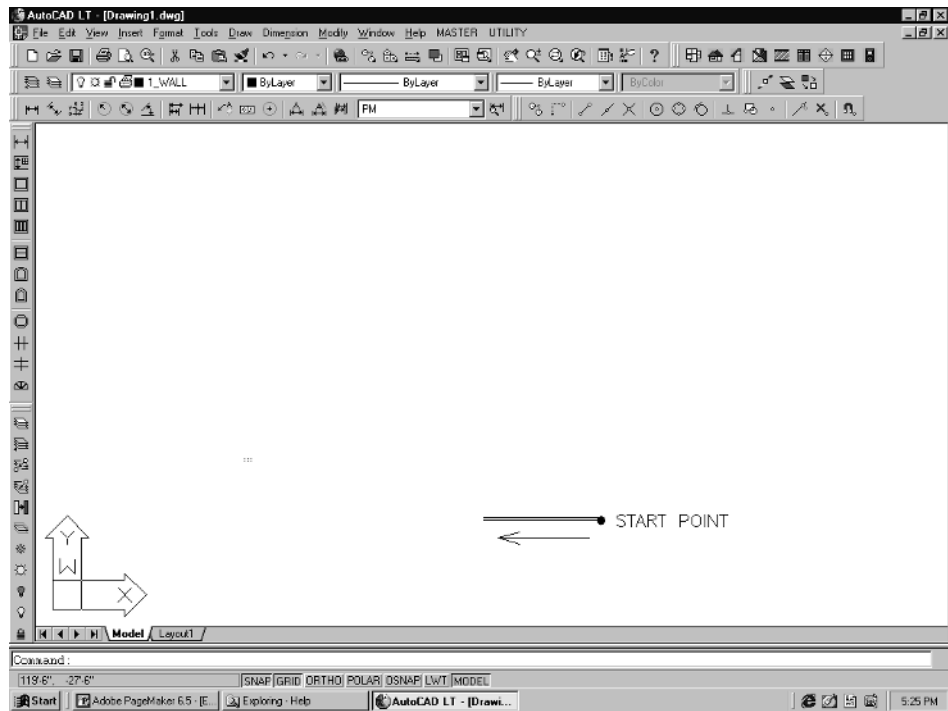

Figure 6-9
6. Pull your cursor to the left. As you do this, look at the coordinate readout on the menu bar. Notice that it reads out the exact distance from the point you first picked. Pull **20'** and then pick. The wall lines will be drawn as shown in Figure 6-9.